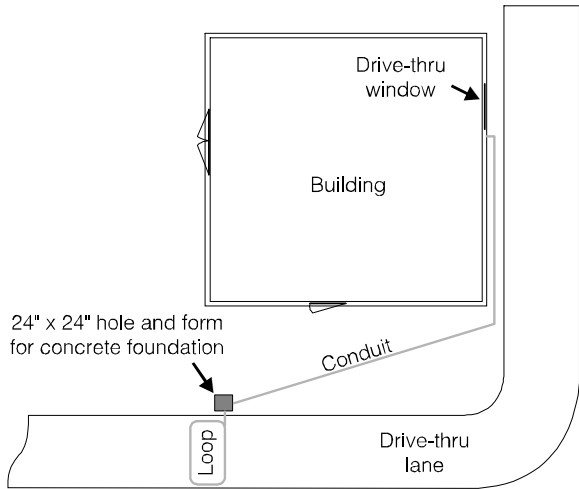

Figure 2. Typical site for concrete foundation
- Position the foundation so that water will drain away from the base of the speaker post. The top surface of the foundation must be six to ten inches above the surface of the drive-thru lane. The side of the foundation must be 2 feet or less from the side of the drive-thru lane, and parallel to the lane as shown in Figure 2.